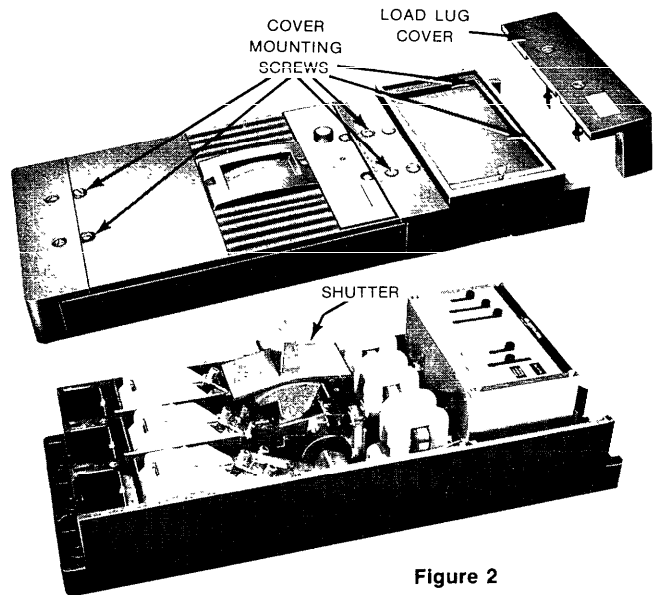

Figure 2
2. Remove (4) breaker cover mounting screws (2 screws accessible under lug cover). Lift breaker cover off as shown in (Figure 2). Remove shutter.